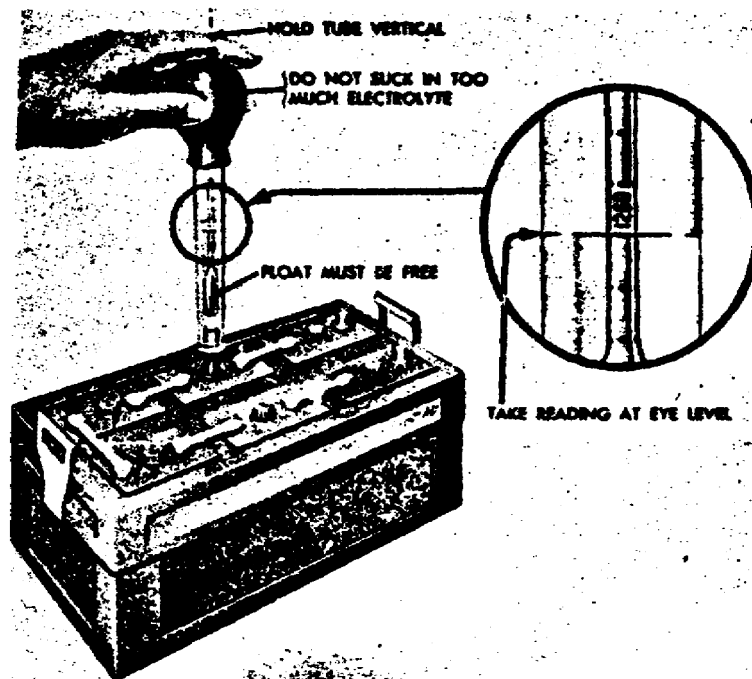

Figure 21. Testing the specific gravity of a battery.
c. To test the gravity of a battery cell squeeze the hydrometer bulb and insert the inlet tip into the electrolyte of a battery cell (fig 21). Hold the hydrometer in a vertical position and release the bulb to draw in Just enough electrolyte so the float moves freely. To avoid wrong readings, the float should not touch the sides or the top and bottom end of the cylinder. Hold the hydrometer so the surface of the liquid is level with your eyes, then read the mark on the scale at this level. Always put the electrolyte back into the cell to prevent weakening the mixture. Test all cells in the battery in the same manner.